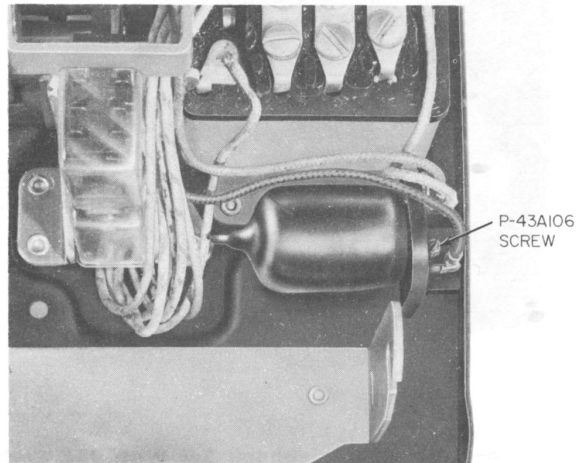

Fig. 11—501-Type Telephone Set, Tube Assembly
- Tube assembly is held to base of set with single screw (Fig. 11).